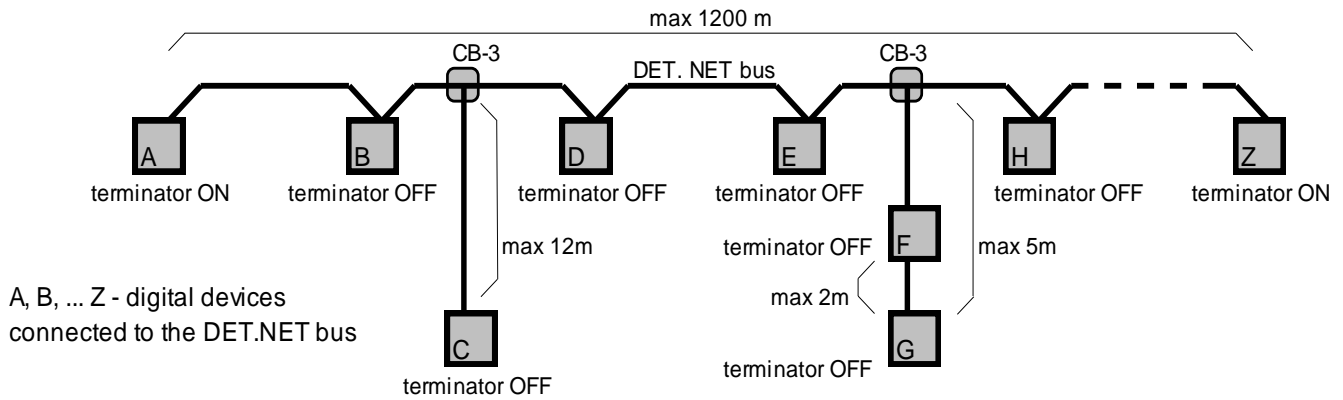

Figure 4.2 Recommended topology for connecting digital devices to the DET.NET bus and setting terminators.
4.2 Connect the MDD module, as well as detectors and/or actuators, connection devices (with detectors), to the common [DET.NET] bus. It is recommended that digital devices are connected in series, creating a line topology. The creation of 'branches' from the bus (e.g. using a CB-3 junction box) is allowed, but such a branch should not exceed 12 metres. In Figure 4.2, device 'C' is connected to the bus, forming a 'branch'.